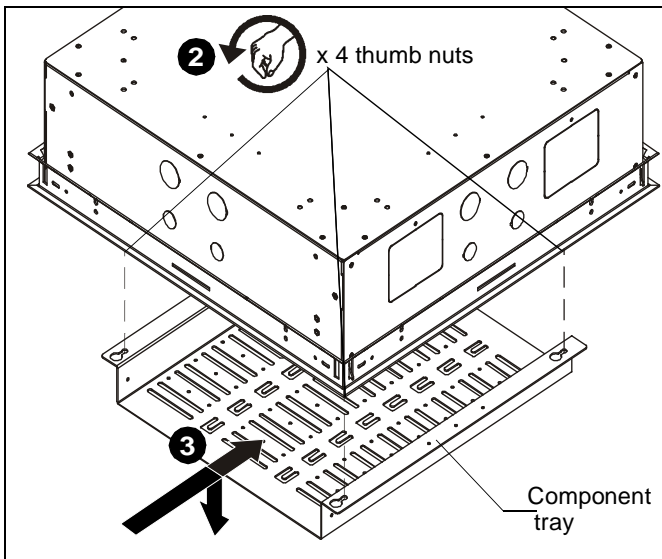

Figure 14
2. Loosen, but do NOT remove, four thumb nuts on component tray. (See Figure 14)
3. Slide tray and lower to remove from CMS490. (See Figure 14)